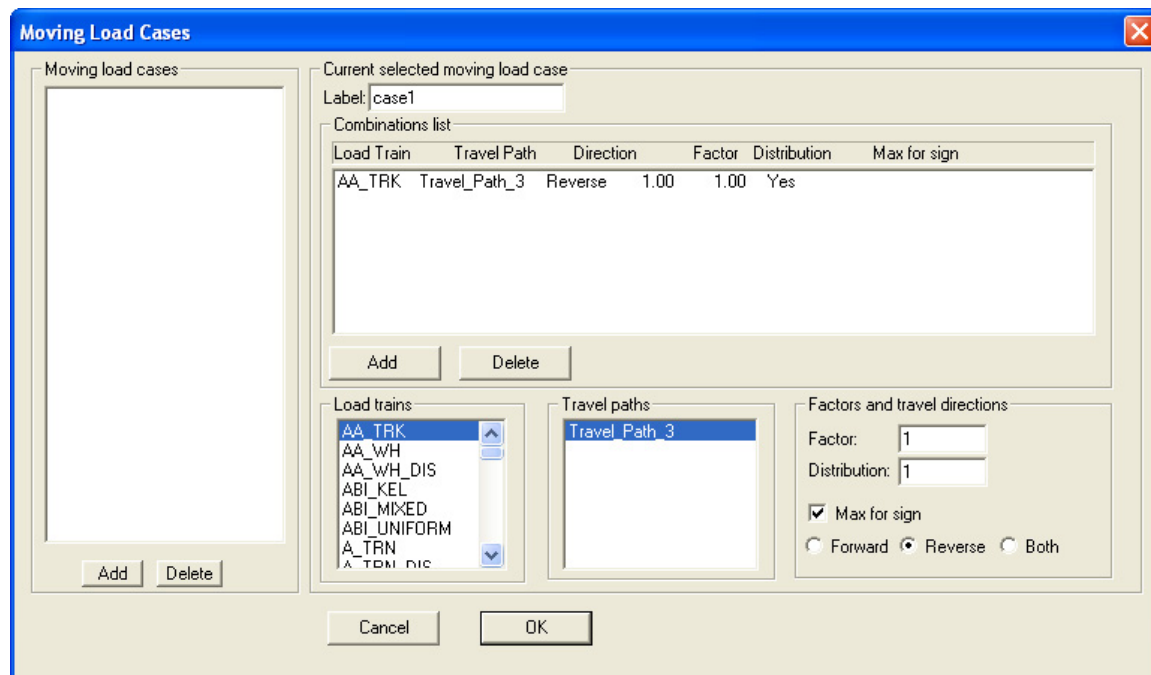

FIGURE 1.8-17 MOVING LOAD CASES DIALOG WINDOW
**Load Case.** A “Load Case” is defined as the application of one or more load trains to a user-specified “Travel Path(s)”. You can create a load case through the Moving Load Case dialog window as shown in **Fig. 1.8-17**.